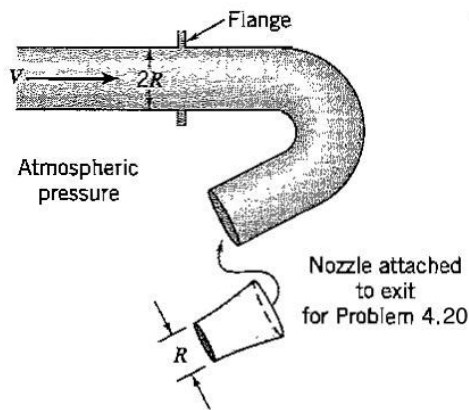

Figure P4.21
4.21 Air of constant density ρ flows steadily through the circular pipe of radius R with no losses at a velocity V , as shown in Figure P4.21. Find the vector force \mathbf{F} , exerted at the flange required to hold the pipe in place, in terms of ρ , R , V , and θ . Ignore gravity. For this problem, the nozzle is not attached to the exit.